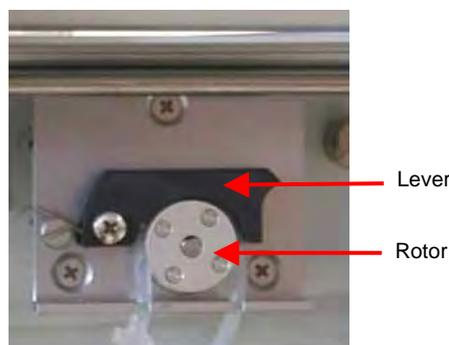

Fig. 25: Peristaltic pump
**i Please note:** Verify that the peristaltic tubing is engaged in the peristaltic pump before you turn on the pump for the first time. The tubing under the peristaltic pump lever remains compressed and does not relax, thus blocking the wash solution. This can happen if the pump is not running for a longer period, e.g., during shipment. That is why the pump is shipped with the active rear-seal wash tubing bypassing the peristaltic pump. We also recommend pulling the tubing out of the peristaltic pump (→ Fig. 25) if the pump is not running for more than five days. To remove the tubing, slightly press the lever upward, remove the tubing, and release the lever.